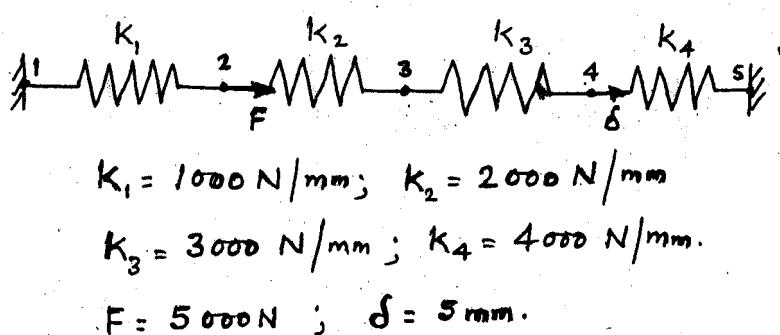

Fig. Q. 1b
1. a) Evaluate the stiffness matrix in the global Cartesian coordinate system for a plane stress triangular element i - j - m defined by the coordinates (4, 4), (10, 6) and (7, 10) respectively, with x-axis of element coordinate system along i-j side of the element. Let E = 200 GPa, $\mu = 0.3$ and t = 10 mm. (05)
- b) For the spring assemblage shown in **Fig. Q.1b**, evaluate the unknown displacements using **potential energy method**. (05)